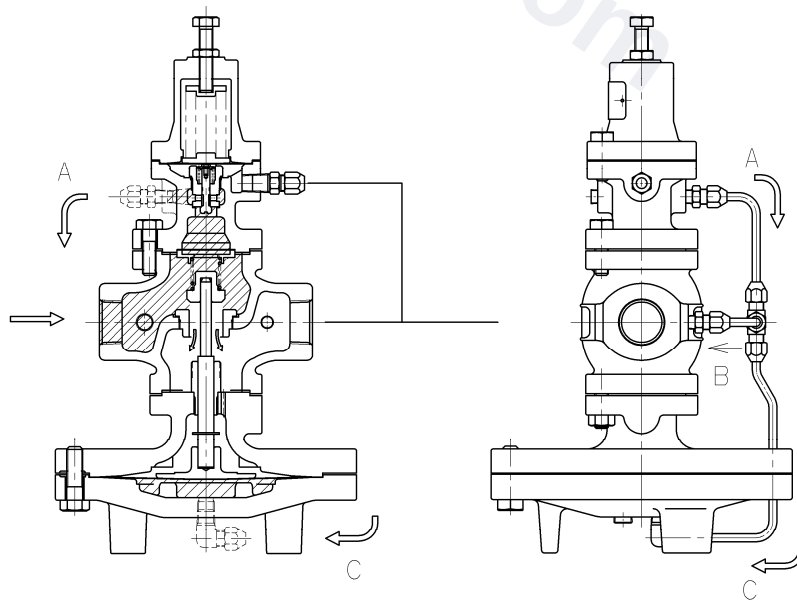

Fig. 3
- (3) When the flow rate at the pilot valve exceeds the flow rate at the orifice, operating pressure in the main diaphragm chamber rises and overrides the pressure on the upside of the main valve and the load of main valve spring [13] to open the main valve. The fluid then begins to flow from the inlet side. (**Fig. 3**)